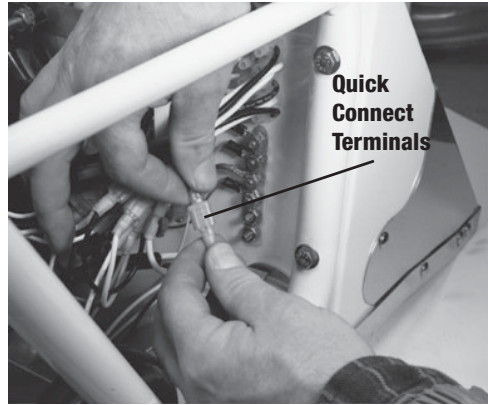

Figure 13
6. Disconnect vacuum motor's black and white wire at their quick-connect terminals (fig. 13).